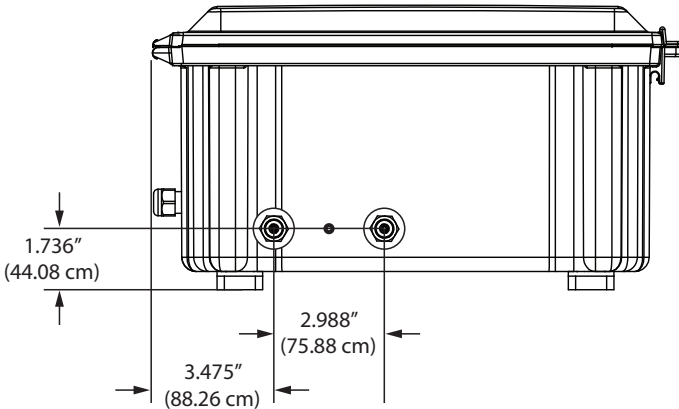

Figure 5: 3017M plumbing connections, bottom view
- Attach the 1/2" ID drain tube to the barbed fitting on the bottom of the analyzer. Refer to **Figure 5**.